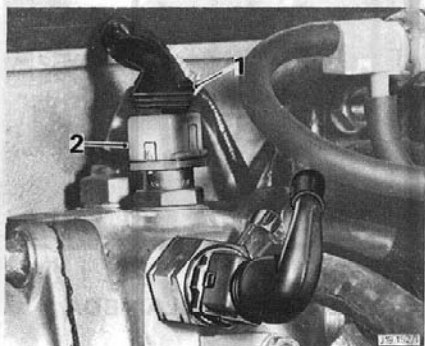

Fig. 28
Disconnect the coolant temperature sensor electrical connector. (1, Fig. 28).
**NOTE:** The replacement component should be ready so that the transfer can be made as quickly as possible. Ensure that the sealing washer is located on the replacement sensor and a coat of a suitable sealing compound is smeared on the threads. Unscrew the temperature sensor from the thermostat housing (2, Fig. 28).